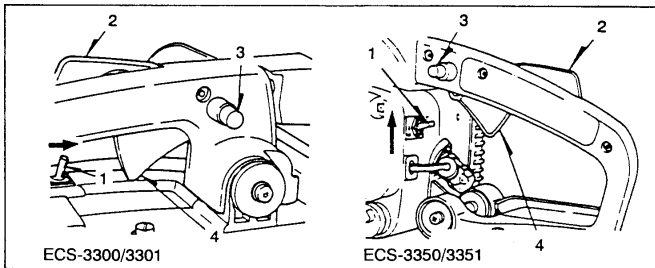

Fig. 2-2
### Starting (Fig. 2-2, 3)
2. With the safety trigger (2) pressed pull throttle trigger (4) and push throttle lock (3), then slowly release the throttle trigger first, then the safety trigger. This will lock the throttle in starting position. (Fig. 2-2)